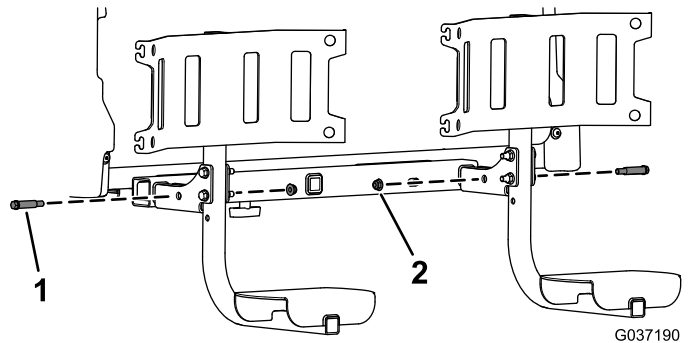

Figure 10
10. Secure the assembled trash-can mounts to the trash-can frame tubes using 2 shoulder screws (3/8 x 5/8 inch) and 2 flange nuts (3/8 inch) as shown in Figure 10.